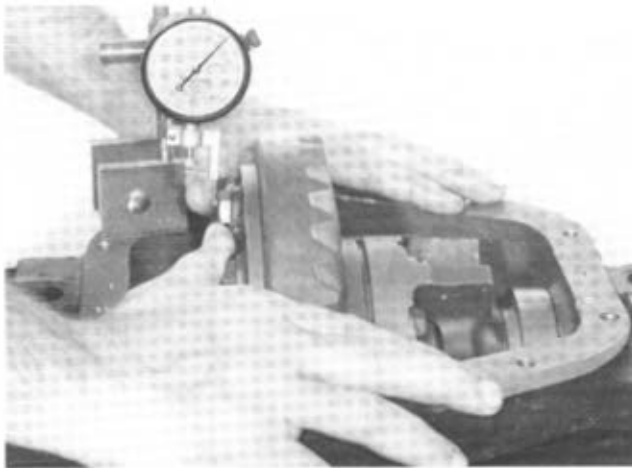

Figure 4-48
- (2) Total amount of space measured with gear set assembled in carrier as shown in Figure 4-48 Measurement B _____
- (3) Measurement A minus Measurement B equals calculated Measurement C _____
- (2) Total amount of space measured with gear set assembled in carrier as shown in Figure 4-48. Measurement B .065" (1.65 mm)
- (3) Measurement A minus Measurement B equals calculated Measurement C .040" (1.02 mm)